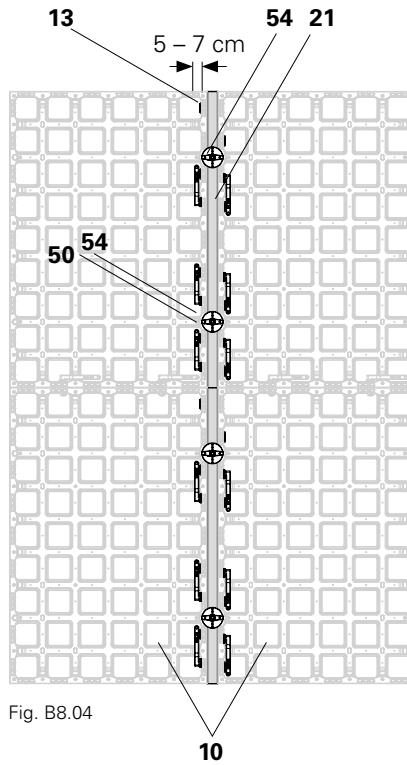

Fig. B8.04
1. Mount DWC wall thickness compensator (**13**) on the right and left DP panel (**10**) using 6 DUO couplers (**21**) each. (Fig. B8.04 + B8.05)